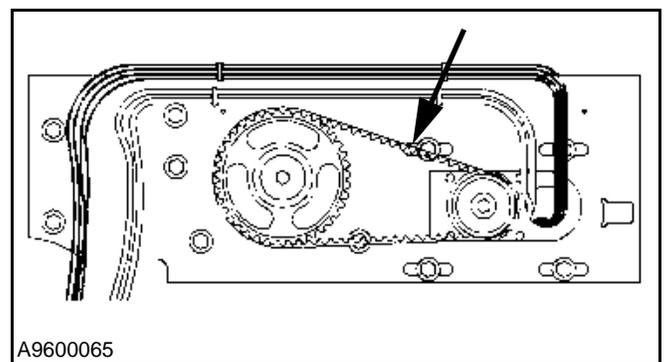

Figure 23
2. The motor drive belt must be tensioned. Final tensioning must be carried out with the door closed. For this the low tension side must be measured. With a testing force of 22.5 lbf, the deflection of the belt should be 0.393 in. (See Figure 23.)
3. Inspect the hardware securing the drive motor assembly to the left drive assembly. Tighten any loose hardware. Replace any missing or damaged hardware as required. (See Figure 23.)